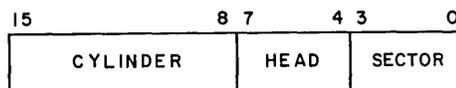

Figure 8. A Register During Load Address, Checkword Check, or Write Address Output Function
Load Address (010), Checkword Check (110), or Write Address (111): For these output functions, the A register contains the Sector Record Address word. See Figure 8.